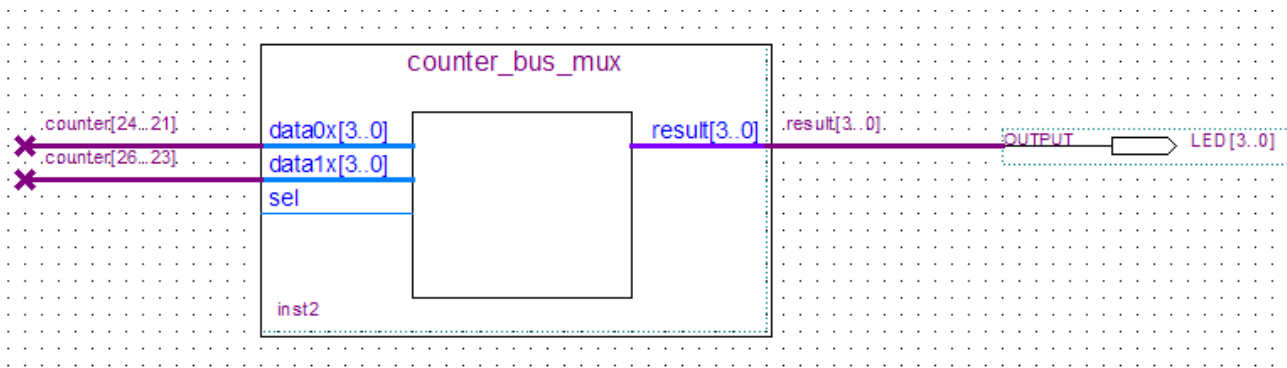

Figure 3-28 Rename the output pin
19. Rename the output pin as LED [3..0] as described in steps 13 c and d. (see **Figure 3-28**).